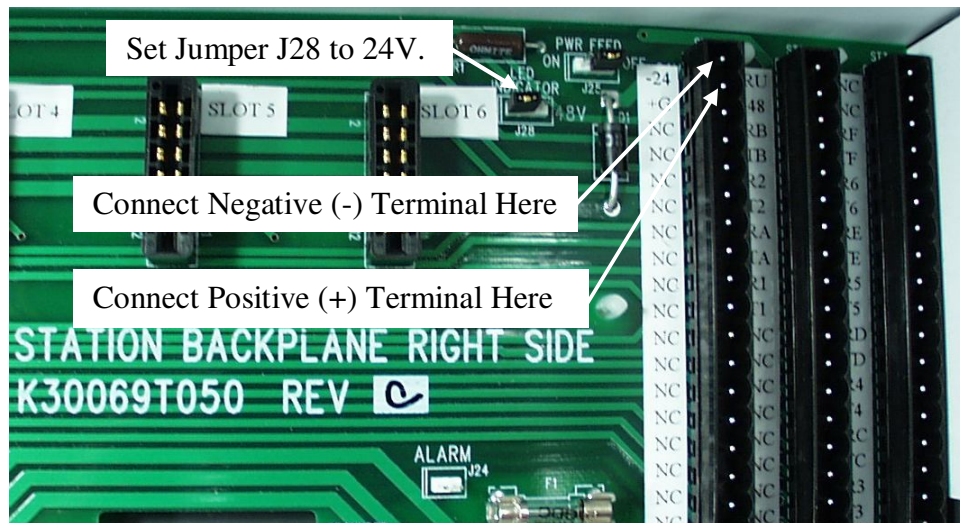

Figure 3: Connecting 24V External Power Supply
- (e) Three (3) 18-position, push-on connector blocks (RM1, RM2, RM3) located in the lower left corner of the card shelf are used to terminate the CO/ Remote cable pairs. See Figure 3 and Table 4 for proper cable pair terminations.
(See Figure 3)